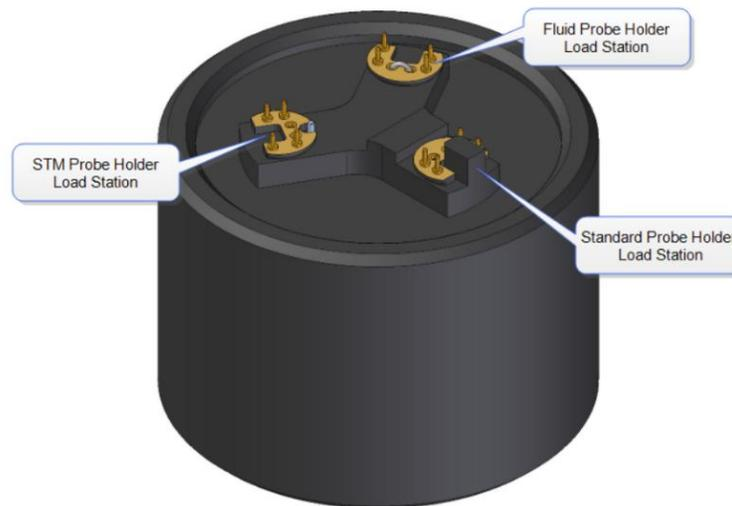

Figure 2. Probe Holder Stand.
1. To load the probe onto the probe holder, use the probe holder stand as shown in Figure 2. Attach the probe holder sockets to the pins on the probe holder stand at the appropriate loading station (fluid, STM, or standard AFM). Ensure the large spring clip of the probe holder is facing up.